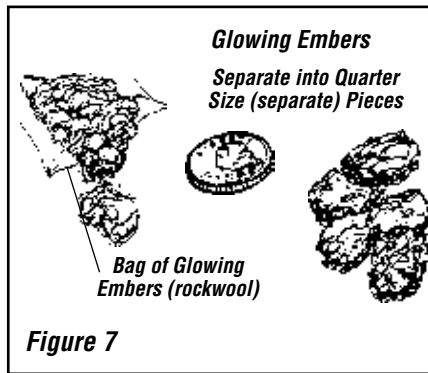
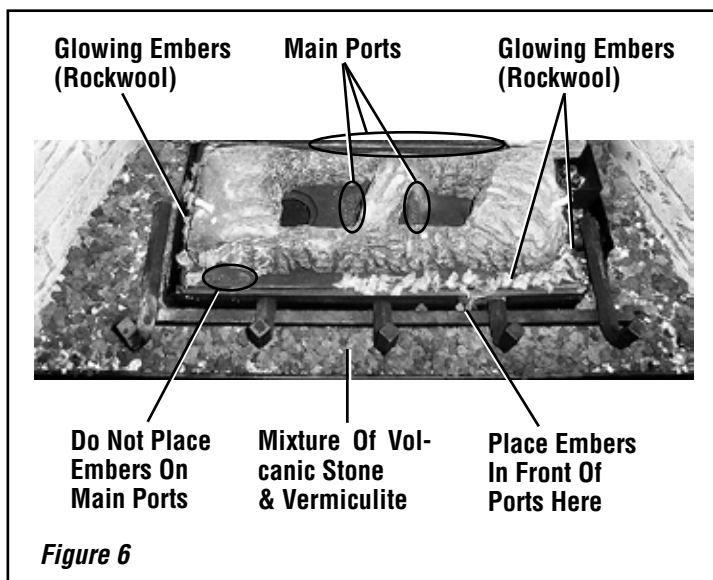

Figure 7
Figure 6
3. Install decorative volcanic stone - Sprinkle the decorative volcanic stone in a pleasing pattern (see **Figure 6**). The volcanic stone should be placed directly on top of the firebox bottom, along the slope and to the back at the right and left sides of the burner. Position any ceramic fiber liners before placing the stone. Logs can be positioned after the volcanic stone.
4. Placement of Glowing Embers - Separate the Embers (rockwool) into pieces about the size of a quarter (see **Figure 7**). Keep the pieces fluffed up, not matted. Distribute these pieces over the surface of the burner, as shown in **Figure 6**. Do not use more than is necessary. **Ensure that the main burner slots remain uncovered by the ember material.** Position the embers on the small holes of the ember bed area.